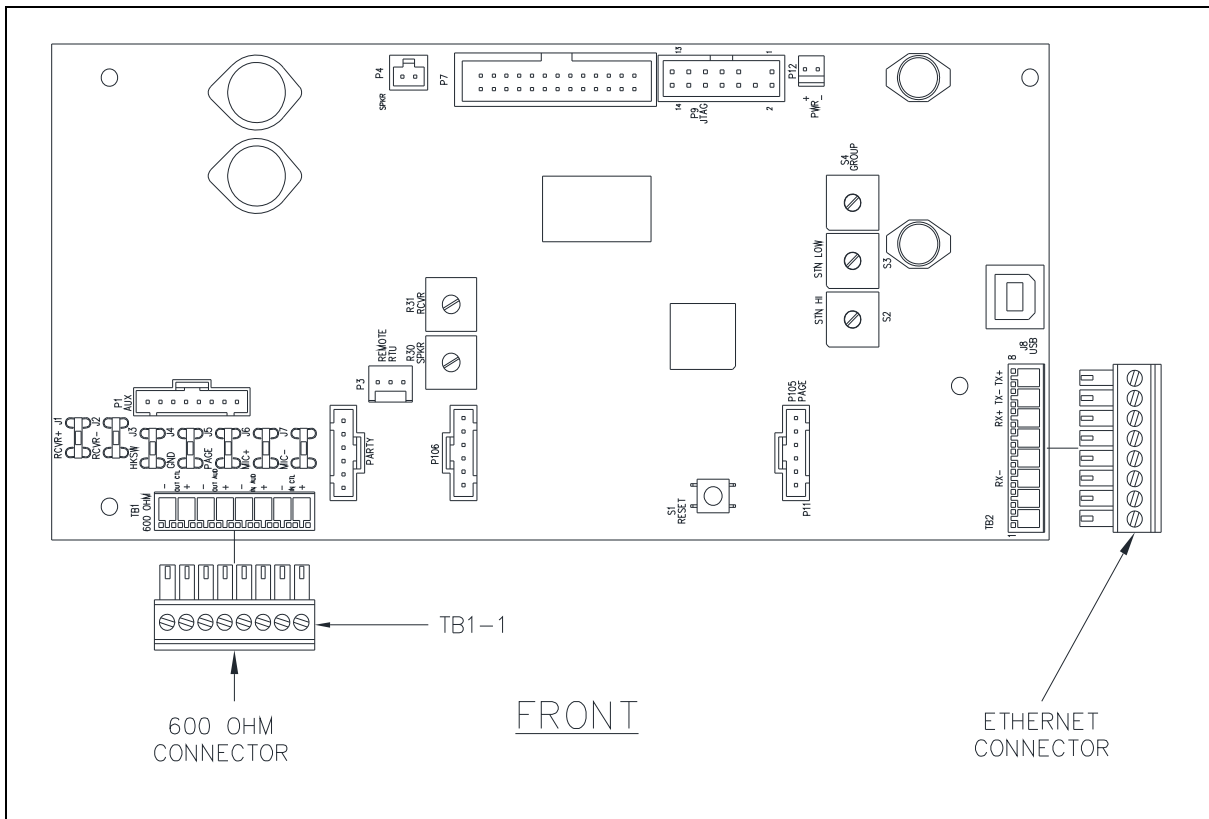

Figure 9. SP2 Main PCBA (Ethernet)
3. Connect the 600-ohm audio wires to the pluggable terminal block for the 600-ohm audio I/O connection (see Table 8 and Figure 9).
3. Connect the Ethernet cable to the 8-position pluggable terminal block (see Figure 9)
4. Connect the pluggable terminal block to the main PCBA terminal block TB2 (see Figure 9).